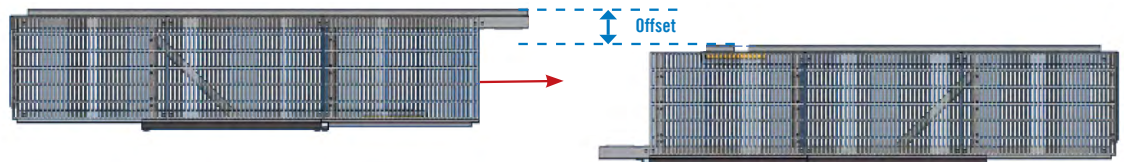

Figure 12.
- b. Begin joining the platform sections by offsetting the sections from each other as shown in **Figure 12.**